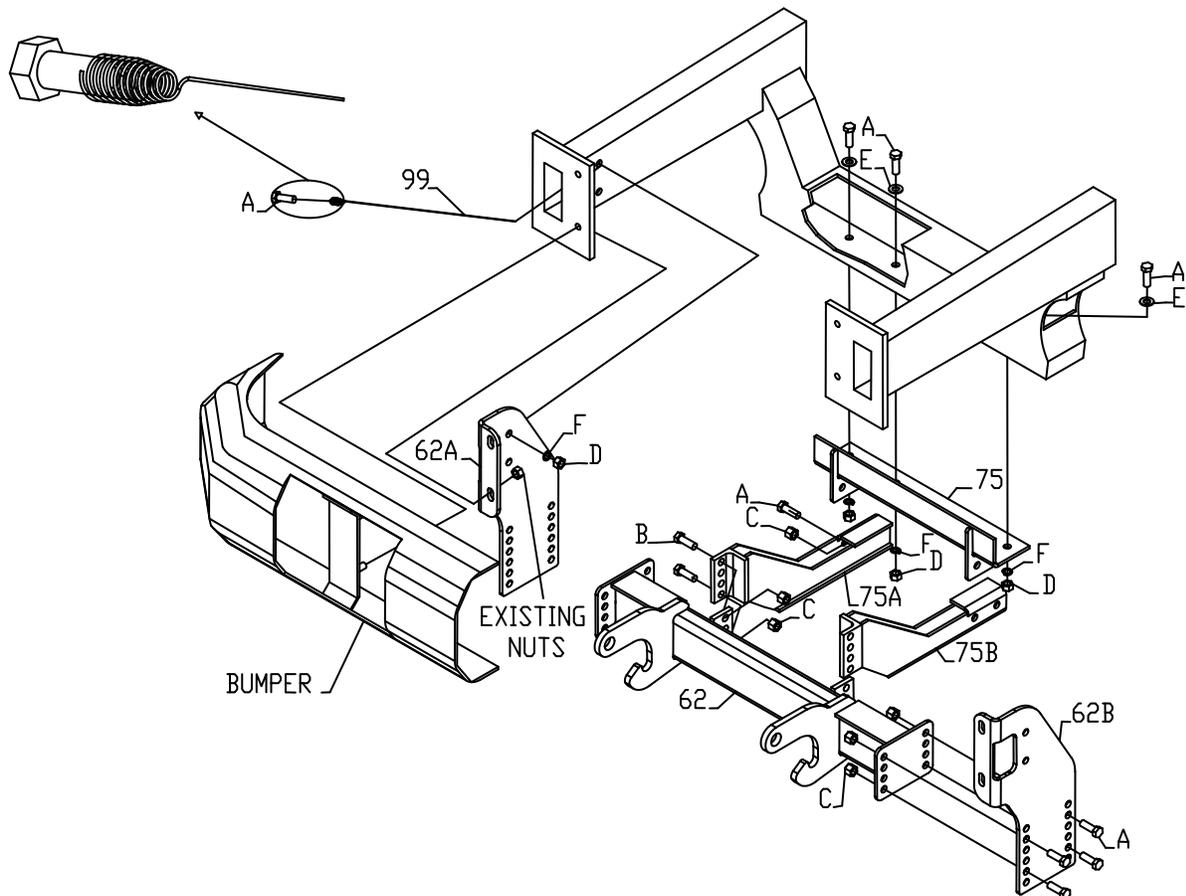
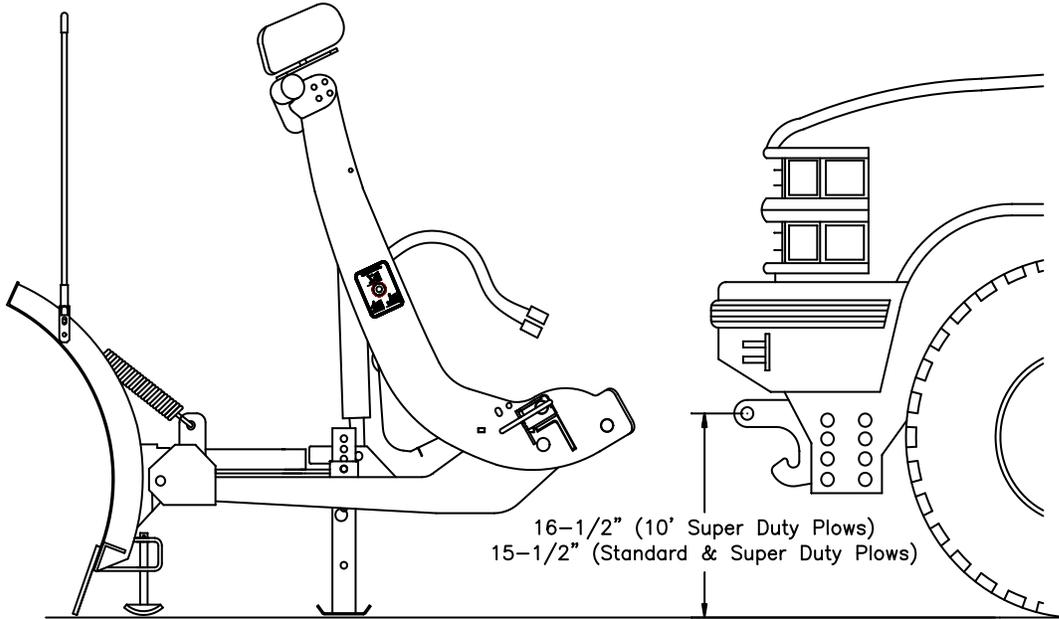

Figure 1
Figure 2
1. There are four nuts holding the bumper to the frame horn on each side. Remove the two inside nuts on each frame horn (see FIG 1). Attach Push Beam Support Plates (62A & 62B) in place temporarily. Align the vertical slots on the Push Beam Support Plates (62A & 62B) with the slots on the frame horn. (THIS MUST BE DONE SO THE BUMPER CAN BE ADJUSTED). With the slots aligned mark the vertical holes on the frame rail remove and drill two 9/16" holes per side.
3. Thread four ½"-13 x 1-1/2" GR5 Hex Head Bolts (A) into four ½" Bolt Pullers (99). Insert through the end of the frame into the vertical holes in the frame rails, leaving Bolt Pullers (99) attached.
5. Remove Bolt Pullers (99) carefully (SAVE FOR LATER) install Push Beam Support Plates (62A & 62B) with ½" Split Lock Washers (F) and ½"-13 Full Nuts (D), leaving them finger tight.
6. Attach Angle Brackets (75A & 75B) to Skid Plate Attachment (75) with ½"-13 x 1-1/2" GR 5 Hex Head Bolts (A) and ½"-13 Nylon Lock Nuts (C). They must go to the inside of the tabs on Skid Plate Attachment (75).
7. Assemble ½" Bolt Pullers (99) with three ½" -13 x 1-1/2" GR 5 Hex Head Bolts (A) and three ½" Flat Washers (E). Insert them through the end of the cross member and into the outside holes and the hole that is off center in the cross member.
8. Place the assembled Skid Plate Attachment (75) with Angle Brackets (75A & 75B) on the bottom of the cross member. Remove Bolt Pullers (99) and attach with ½" Split Lock Washers (F) and ½"-13 Full Nuts (D) leave finger tight.
9. Bolt Push Beam Assembly (62) onto Push Beam Support Plates (62A & 62B) using ½"-13 x 1-1/2" GR 5 Hex Head Bolts (A) and ½"-13 Nylon Lock Nuts (C). Leave finger tight.
- NOTE: The proper Push Beam Assembly height is 15-1/2" from the ground to the center of the pin receiving holes on the Push Beam hooks. (See Figure 2)
10. Bolt Angle Brackets (75A & 75B) to the tabs on the back of Push Beam Assembly (62) using ½"-13 x 1-1/2" GR 8 Hex Head Bolts (B) (check the marks on the top to be sure they are GR 8 bolts) and ½"-13 Nylon Lock Nuts (C).